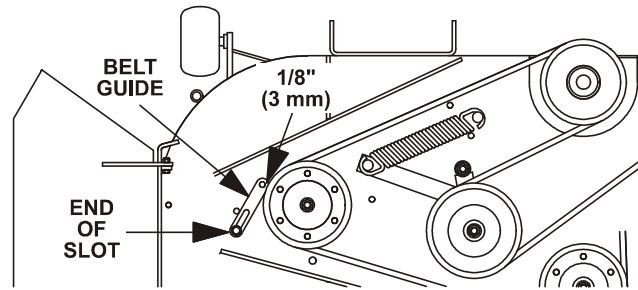

FIGURE 15
- c) Locate belt guide bolted to deck near the shield support stud and right-hand pulley. Guide should be $\frac{1}{8}''$ (3 mm) away from the belt, with bolt-end of guide near end of slot (See Figure 15).